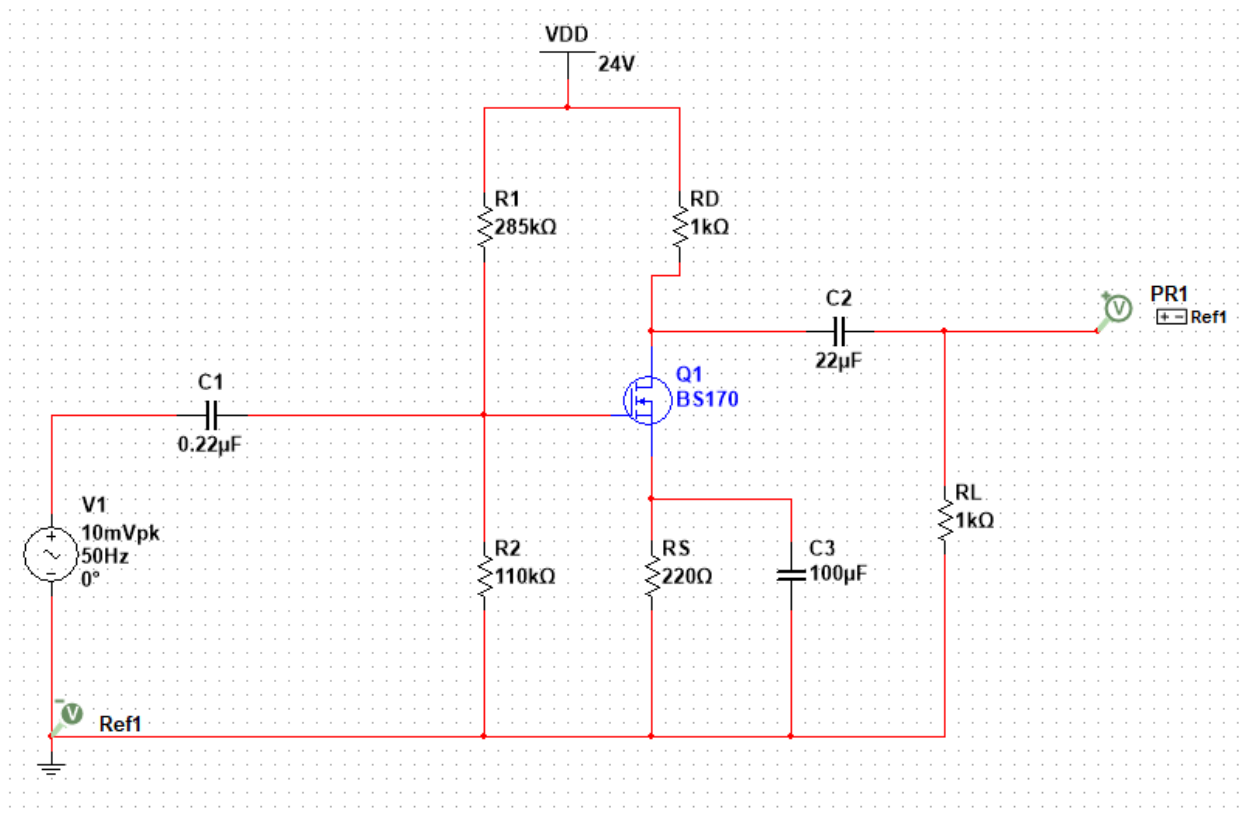

Figure 2 MOSFET Amplifier
1. Construct the network of Figure 2 using Multisim and circuit breadboard.